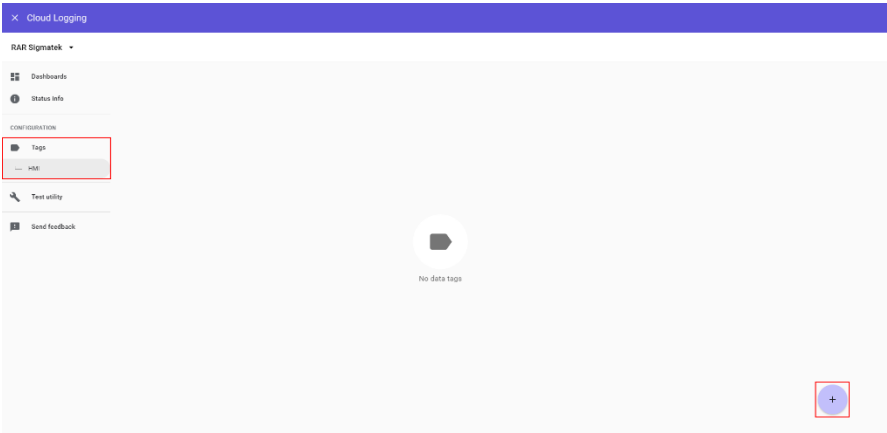

Figure 5.78 Cloud Logging interface; the “+” button is used to add new tags.
3. Click on the “+” button to add a tag (Figure 5.78).